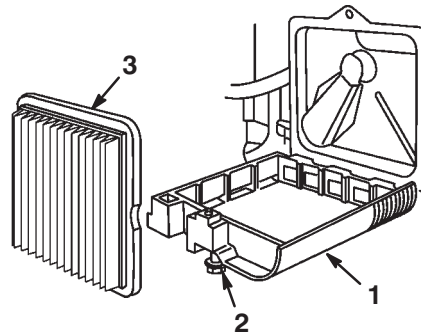

Figure 16
2. Remove screw securing air cleaner cover to engine (Fig. 16). Tilt cover down and clean cover thoroughly.
3. Remove paper air cleaner filter (Fig. 16) and discard.